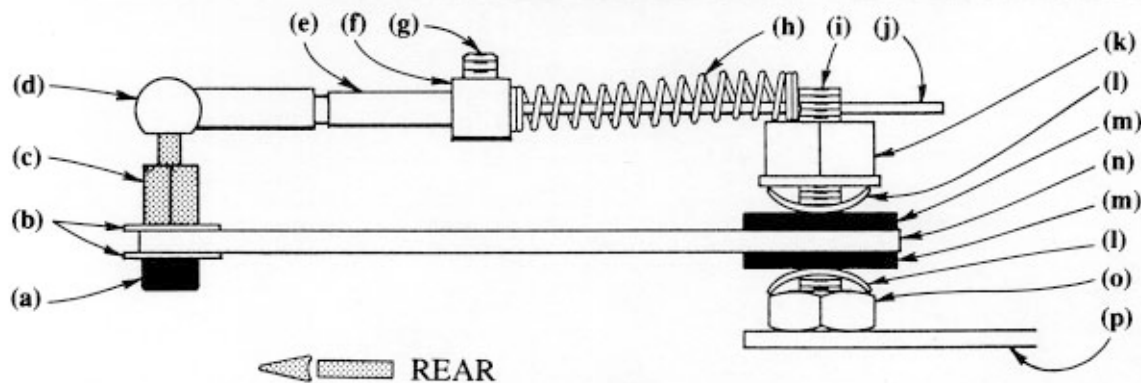

fig. 1
STEP 1 Slide the screw (i) up through the radio tray (p) and assemble the parts onto it as shown (fig. 1).